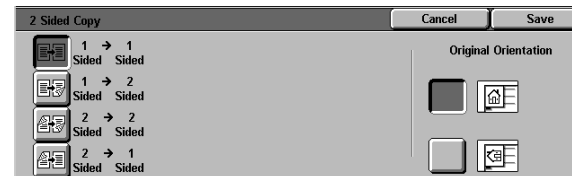

Figure 3: 2 Sided Copying options
- 2 If you are using a DADF, you may choose one of the following features (Figure 3):